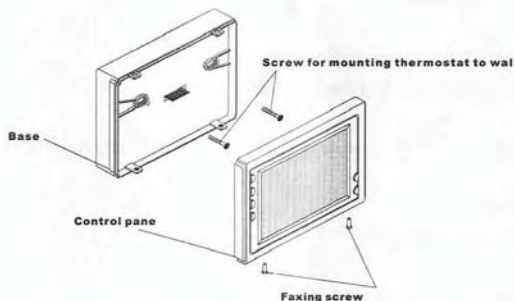

Figure 5
1. Remove 2 screws from the bottom of thermostat. (See Figure 5) Gently pull the control panel straight off the base. Forcing or prying on the thermostat will cause damage to the unit.